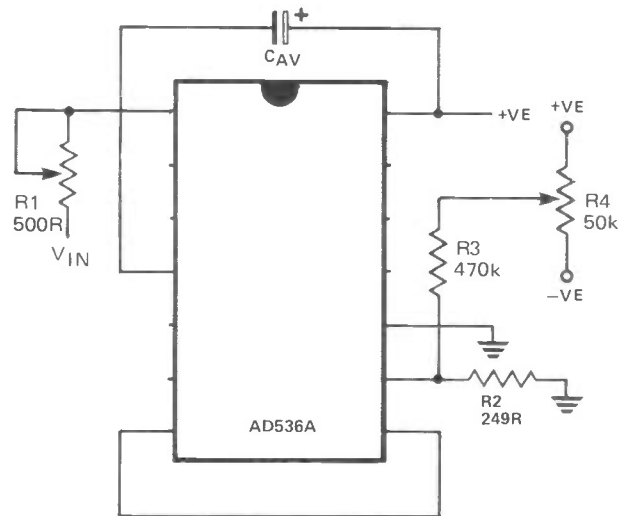

Figure 2: Optional external gain and output offset trimming
For use on the low signal ranges, the measurement accuracy may be further improved by using the Fig. 2 layout. R4 trims the output offset, but puts 249R in series with a 25K internal resistor (RL) increasing the scale factor by 1%. This is trimmed out by R1.